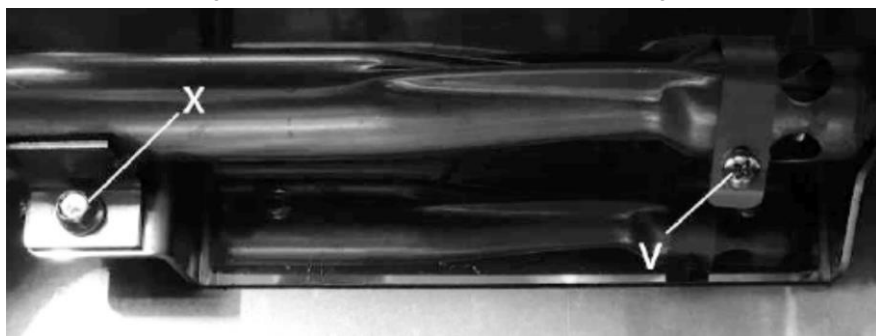

Fig. 4
3. Loosen the X screw (Fig. 4).